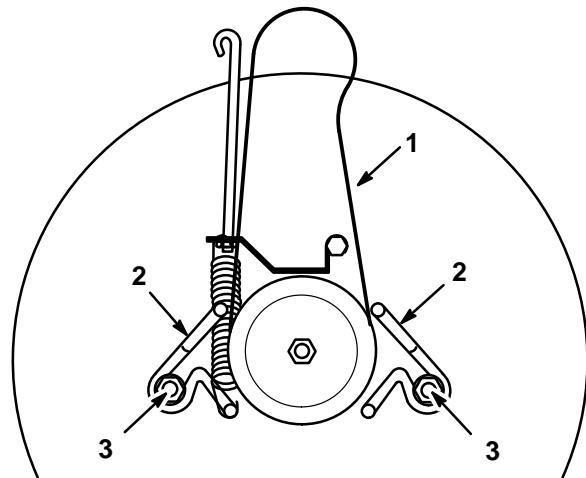

Figure 45
2. Loosen the belt guide mounting bolts and move belt guides away from the pulley (Fig. 45).
1. Install the new belt around the blade pulley and inside both belt guides (Fig. 45).
2. Adjust the belt guides so they are  $1/8"$  (3 mm) away from the pulley and tighten mounting bolts (Fig. 45).